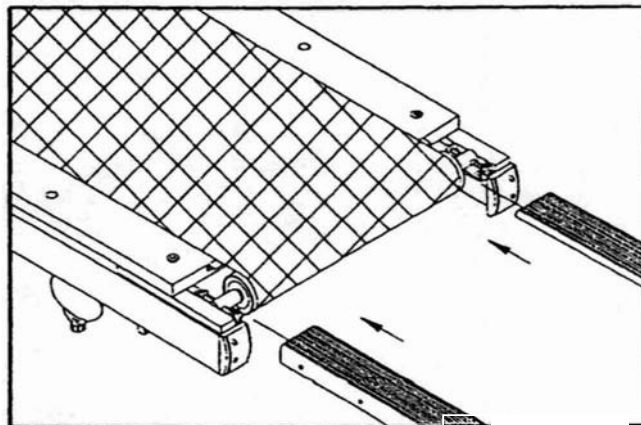

Fig. 12
6. Place the staging platform. (see Fig. 12)